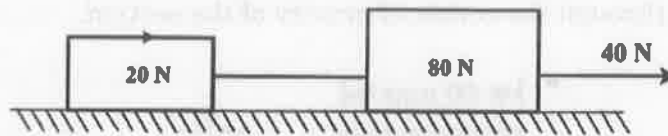

Figure 16 (a)
16. (a) Two weights 80 N and 20 N are connected by a thread and move along a rough horizontal plane under the action of a force 40 N, applied to the first weight of 80 N as shown in figure 16 (a). The coefficient of friction between the sliding surfaces of the weights and the plane is 0.3. Determine the acceleration of the weights and the tension in the thread using work–energy equation.